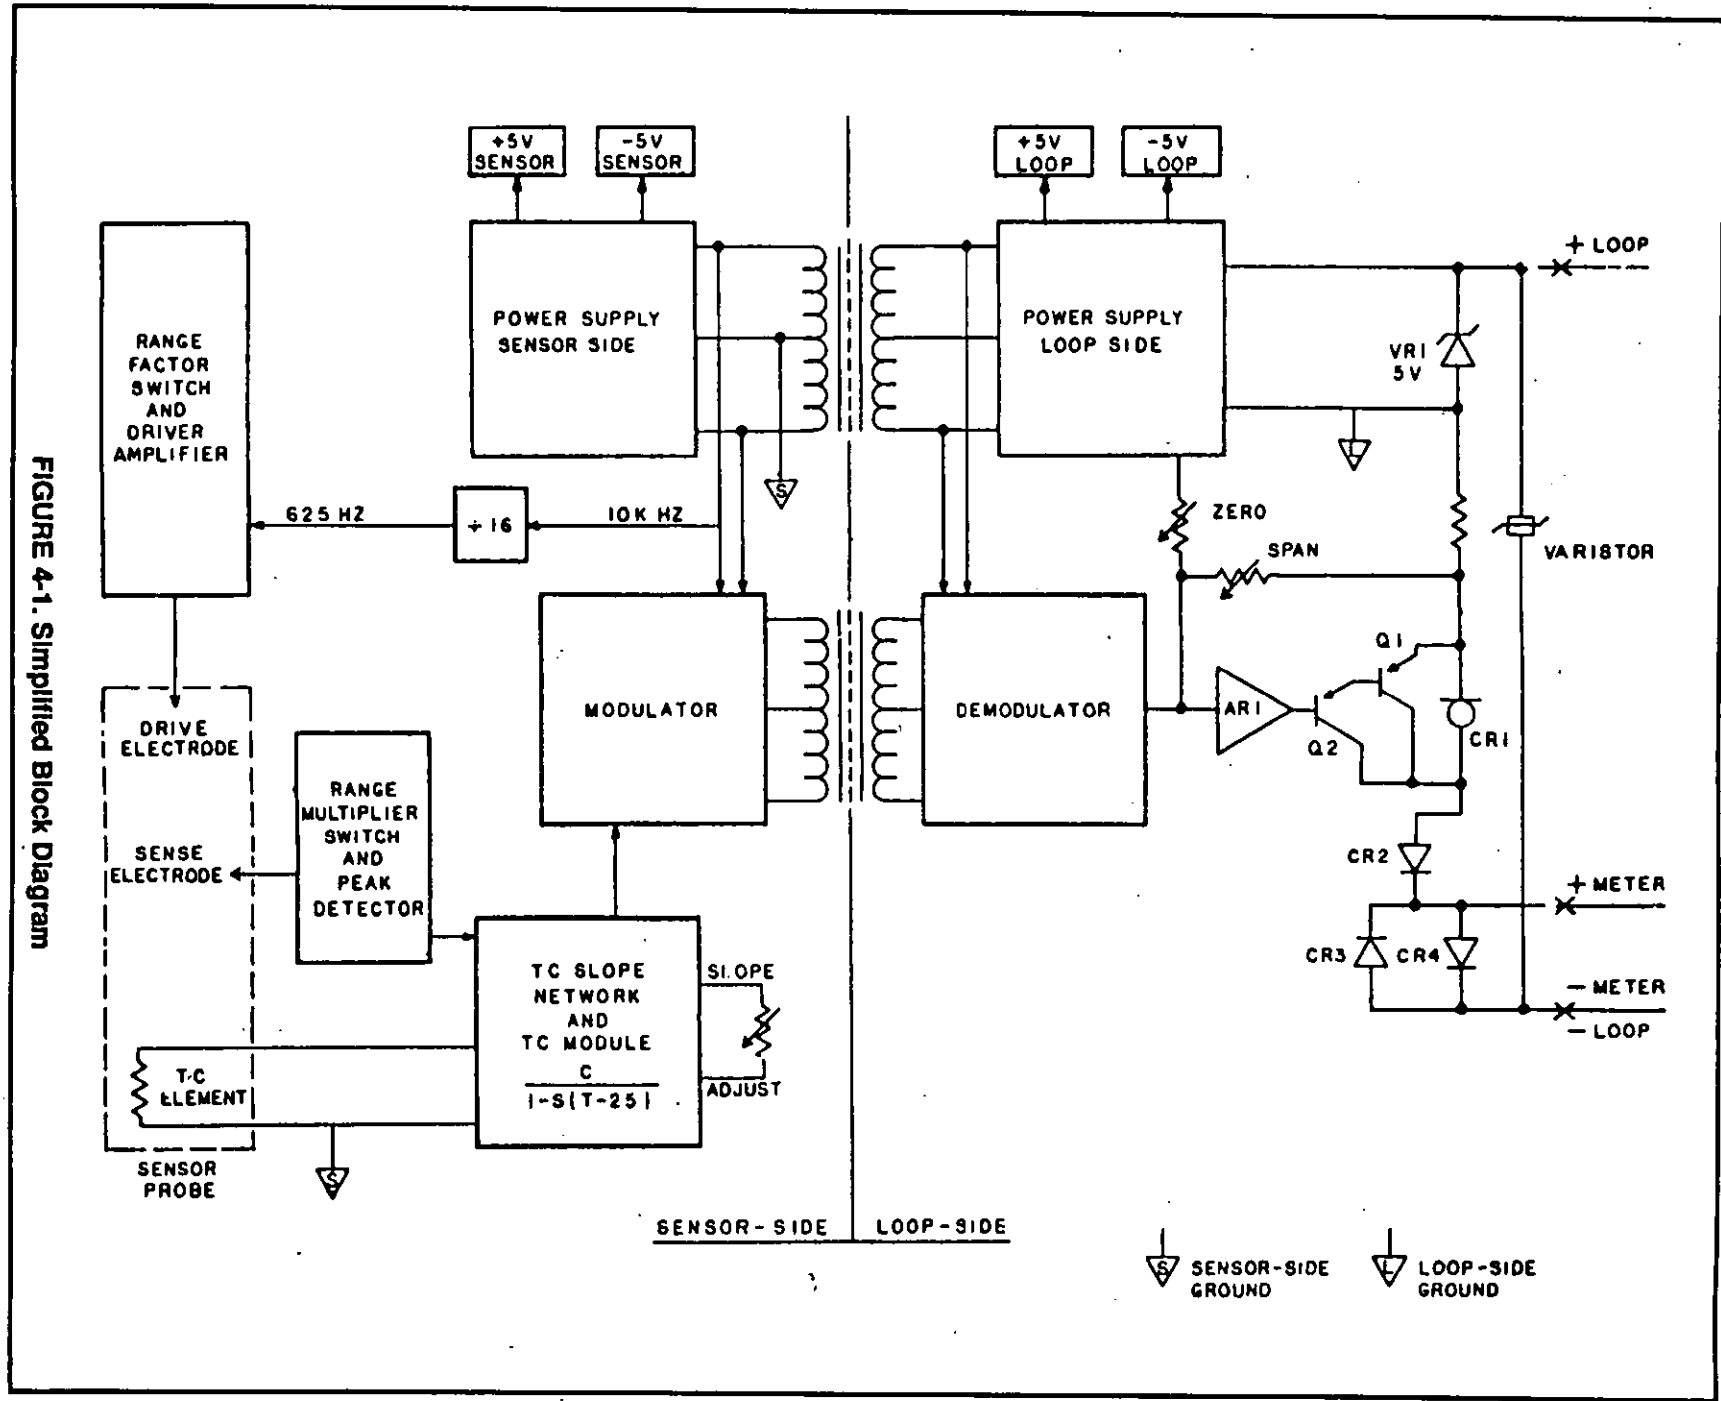

FIGURE 4-1. Simplified Block Diagram
4.1 GENERAL. This section provides a simplified theory of operation for the transmitter and also includes a flow diagram of the electronic circuitry (see Figure 4-1).